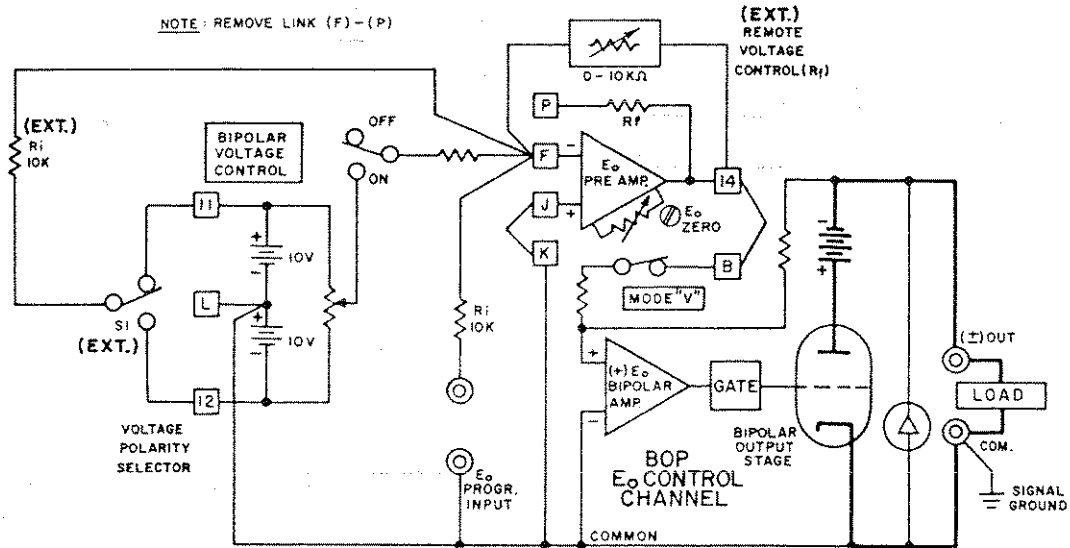

FIG. 3-5 REMOTE D-C OUTPUT VOLTAGE CONTROL BY MEANS OF A TWO-TERMINAL RESISTANCE (DECADE).
- 3-13 Two-terminal resistance control of the d.c. output voltage (for example, by means of a Decade Box) can be exercised as shown in FIG. 3-5.